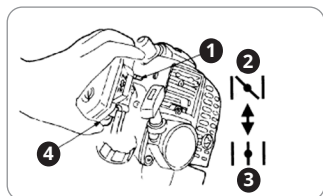

Fig. 11
4. Move the choke lever to the closed position (Fig. 11).